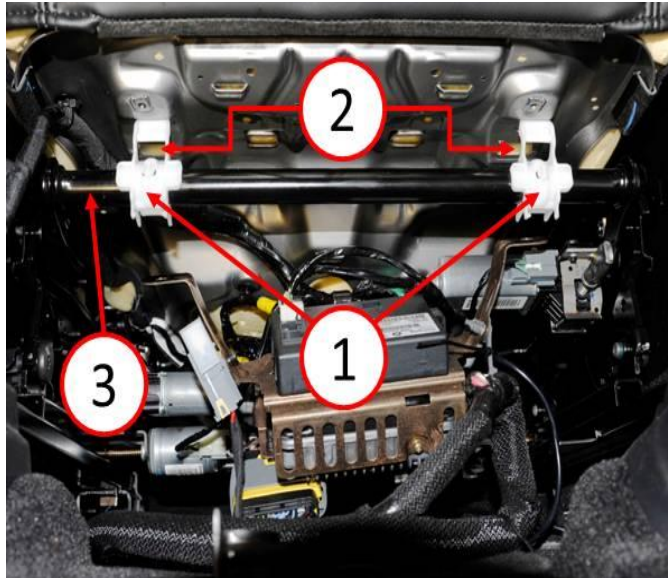

Fig. 5 Seat Isolator Bushing Installation
7. Install the right and left seat pan isolator bushings p/n 04610341AB by inserting them into the slots at the same time (Fig. 5).